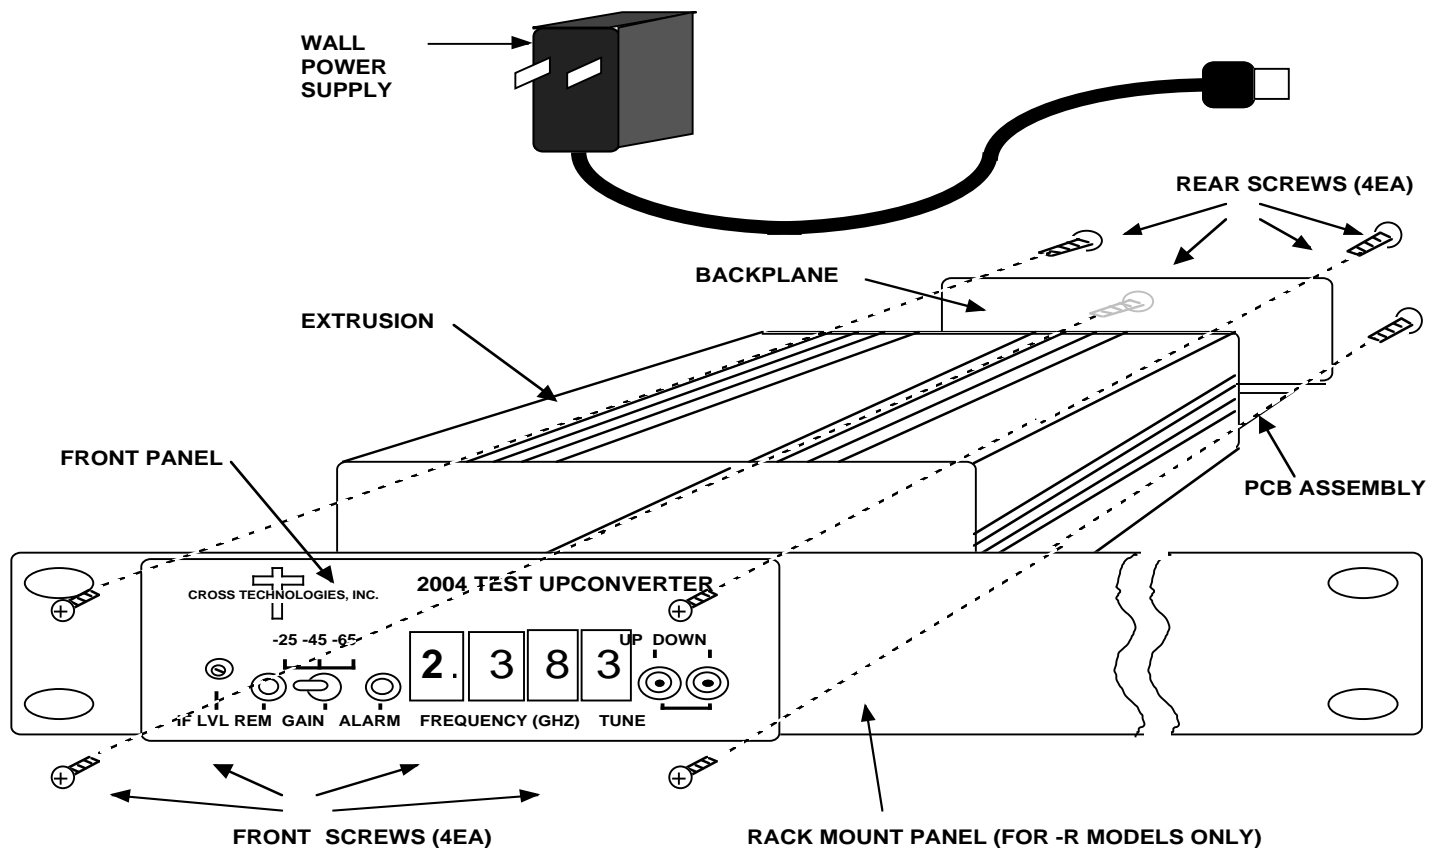
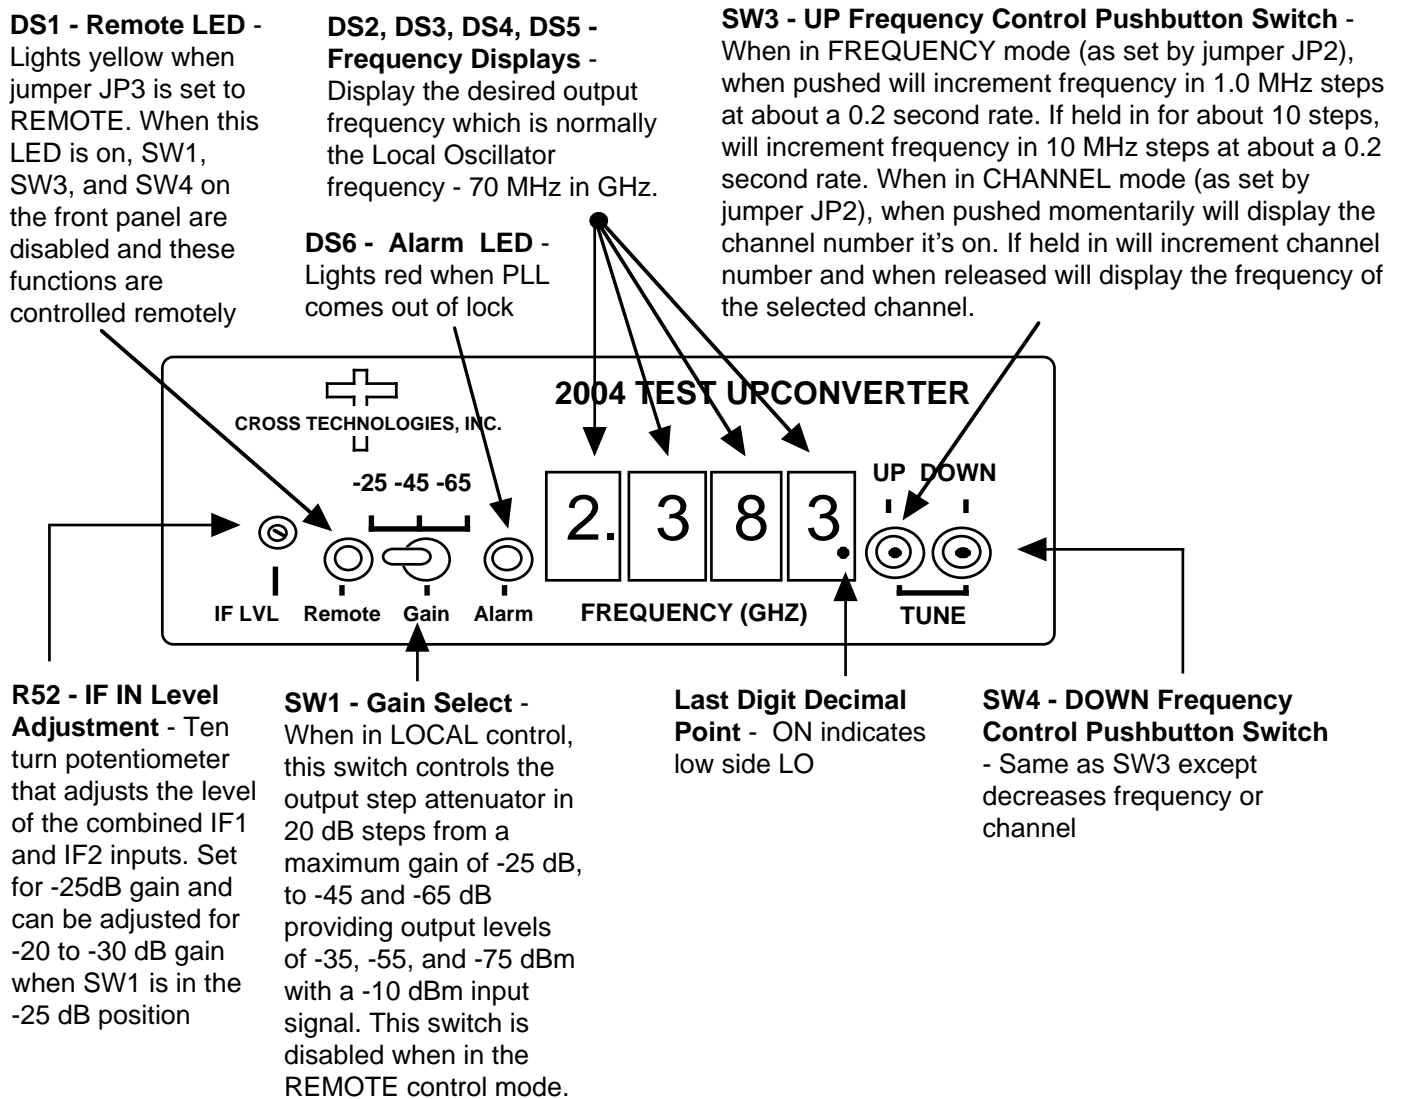
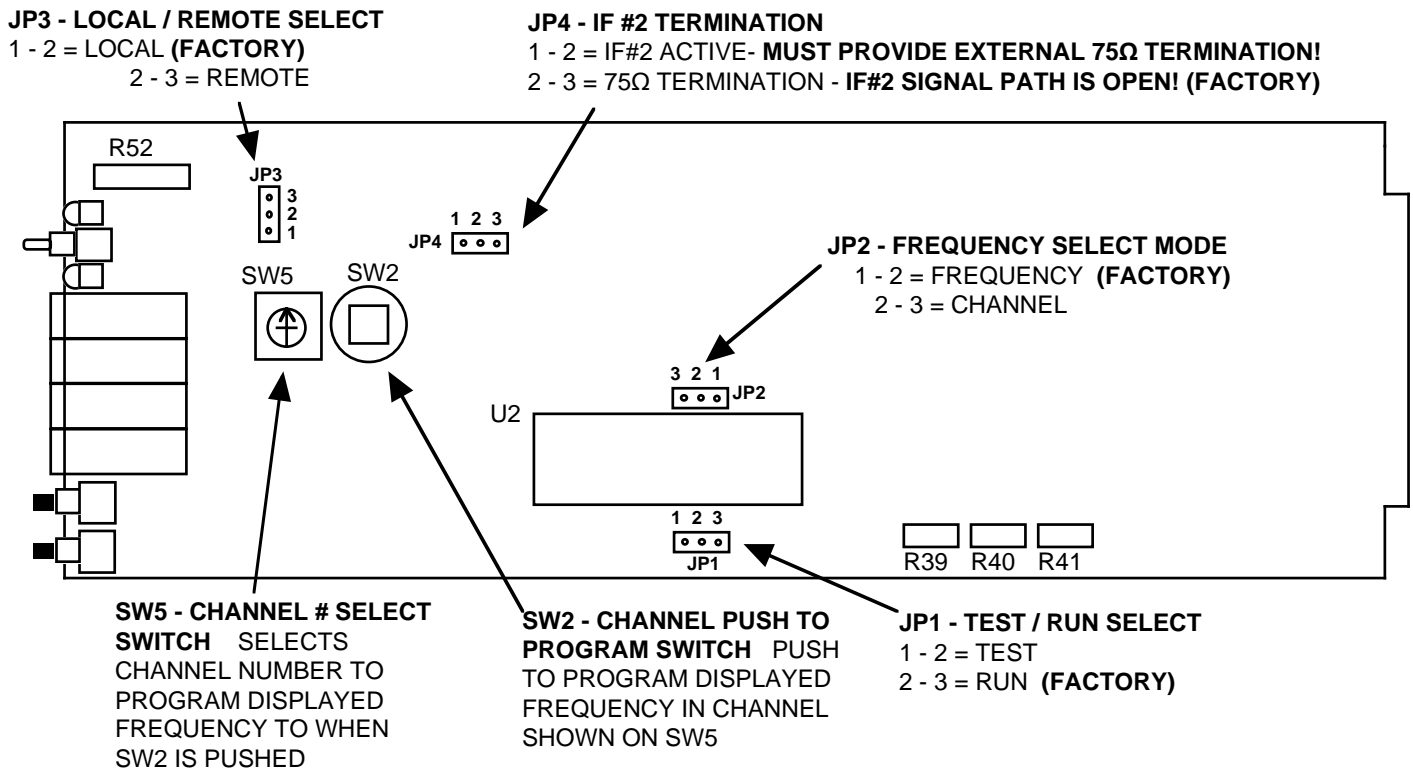

FIGURE 2.1 SERIES 2000 ASSEMBLY DRAWING
FIGURE 2.2 2004 Front Panel Controls and Indicators
FIGURE 2.4 2003 and 2004 On-Card Jumpers and Controls (See Section 2.4 for instructions on removing the PCB from the extrusion)
2.1 Mechanical - The 2004 is packaged in an aluminum extrusion. The 2004 is mounted on a 1 3/4" X 19" panel that can be mounted to a rack using the 4 holes at the ends. Both units derive $\pm 15V$ from the wall power supply or an external regulated power supply such as the Cross Technologies, Inc. model 2000-01. See Figure 2.1.
2.2 Controls and Indicators - Figure 2.2 shows front panel controls and indicators.
2.4 Accessing and Changing On-Card Jumpers and Controls - Figure 2.4 shows jumpers (with factory settings) and other on-card controls. To remove the printed circuit board (PCB) from the extrusion for access to the jumpers and controls:
- 1.) Remove four (4) **rear panel screws** (see Figure 2.1).
- 3.) With the **wall power supply disconnected**, move jumpers to the desired positions (Figure 2.4).
- 7.) Install four (4) **rear panel screws**.
- 1.) If required, check that on-card jumpers are set to the desired positions (Figure 2.4)
- 2.) Connect the wall power supply to the 2004 and the wall power supply to 115 VAC, 60 Hz (Figure 2.1)
- 3.) Connect a -10dBm signal to IF #1 In (Figure 2.1, Figure 2.3)
- 4.) Connect a -10dBm signal to IF #2 In (Figure 2.1, Figure 2.3). If this port is not used it must be terminated in 75Ω by connecting on-card jumper JP4 in the 2-3 position (Figure 2.4).
- 5.) Set the desired frequency by pushing SW3 or SW4. If numbers 0 to 9 appear when pushing SW3 or SW4, the 2004 is set for the channel mode (with on-card jumper JP4, Figure 2.4). See section 2.5.2 for frequency setting information.
- 6.) Set SW1 for the desired gain (Figure 2.2).
- 7.) Be sure DS1 and DS6 are off (Figure 2.2).
- 8.) If needed, R52 can be adjusted (Figure 2.2) for input signals that are different than -10 dBm (-5 to -15 dBm). Note that this adjusts the levels of both IF #1 and IF #2 and uncalibrates the 2004 from its -10 dBm input setting.
- 2.) **To go to the change modes function**, simultaneously **press and release both the Up and Down pushbutton** switches (SW3 and SW4, see Figure 2.2). The current IF frequency is shown on the displays.
- 5.) **To check the selected IF frequency**, momentarily **press and release both the Up and Down pushbutton** switches (SW3 and SW4, see Figure 2.2)
2.5.4 Frequency Setting, Channel Mode - A second tuning mechanism is channel selection. This is accomplished when the on board three-pin jumper (JP2) (Figure 2.4) is set to the "channel" position.
1. The 2004 PCB is removed from the extrusion (see section 2.4 for instructions) to access the channel selecting decimal switch (SW5) and the push to program switch (SW2) (Figure 2.4).
With the display mode jumper (JP2) set in the frequency mode, the frequency set switches (SW3,SW4) are pushed to the frequency desired (Figure 2.2).
2. The decimal switch (SW5) is set to the channel number desired to be programmed (Figure 2.4).
3. Push programming button (SW2) to program the displayed frequency into that channel number (Figure 2.4).
5. When finished, set JP2 (Figure 2.4) in the "Channel" position if this tuning mechanism is desired.
2.5.5 Remote Operation - Frequency control and setting of the output attenuator can be remotely commanded from an external (not supplied) PC using a simple DOS program. To place the 2004 in the Remote mode, place on-card jumper JP3 in the REMOTE (pins 2-3) position (Figure 2.4) and observe yellow LED DS1
(Figure 2.2) is on. Serial ASYNC (8N1) data is received via RS232C receiver U4 and sent via RS232C transmitter U13 at a 9.6kB/s data rate. When in the remote mode, either frequencies or channel numbers can be provided, but programming the frequencies of the channels can only be done locally. When in the remote control mode, the selection of U6 and consequently the output attenuator U16, U24 is controlled through the remote serial port disabling the function of front panel attenuator control switch SW1 and providing gain selection of -25 dB, -45 dB or -65 dB.
3.2.3 Frequency Setting, Channel Mode - A second tuning mechanism is channel selection. This is accomplished when the on board, but not front panel accessible, three-pin jumper (JP2) (Figure 2.4) is set to the “channel” position. Ten preset channels (0-9) can be selected as follows:
1. The 2004 PCB is removed from the extrusion (see section 2.4 for instructions) to access the channel selecting decimal switch (SW5) and the push to program switch (SW2) (Figure 2.4). With the display mode jumper (JP2) set in the frequency mode, the frequency set switches (SW3,SW4) are pushed to the frequency desired (Figure 2.2).
5. When finished, set JP2 (Figure 2.4) in the “Channel” position if this tuning mechanism is desired.